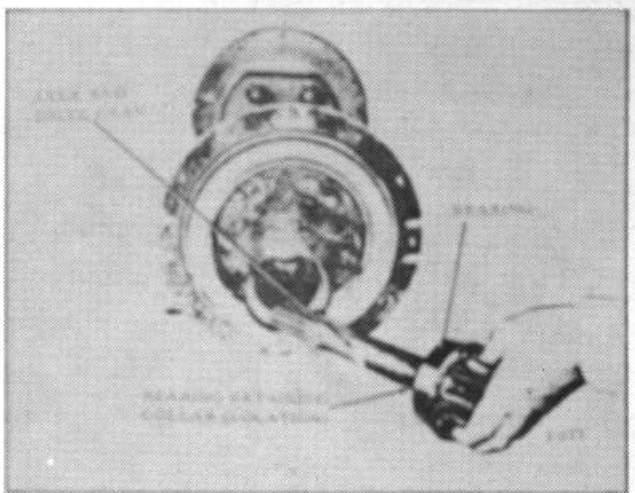

Figure 10.
6. Pull the axle housing off the studs. (Fig. 6) Remove the reduction drive gear. (Fig. 10)